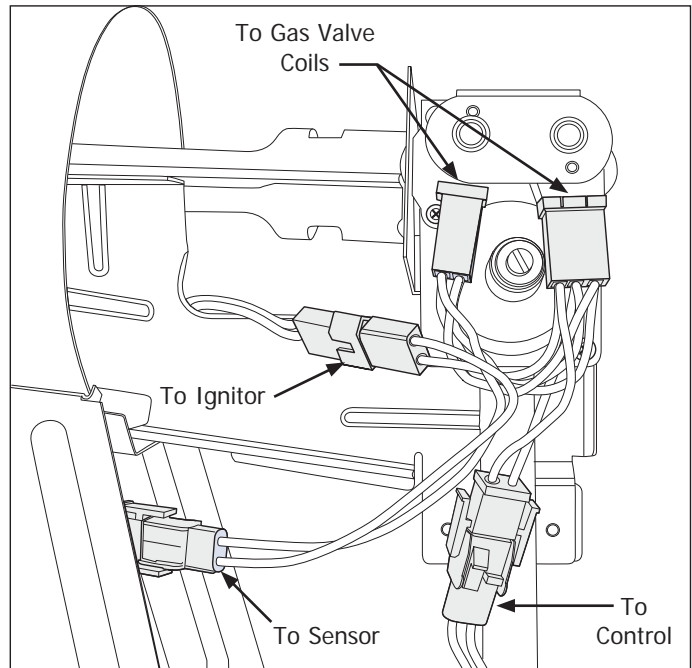

Figure 4-41.
(See Figure 4-41)
3. Disconnect all electrical connections from gas valve, coils, ignitor and wire harness. (See Figure 4-41)